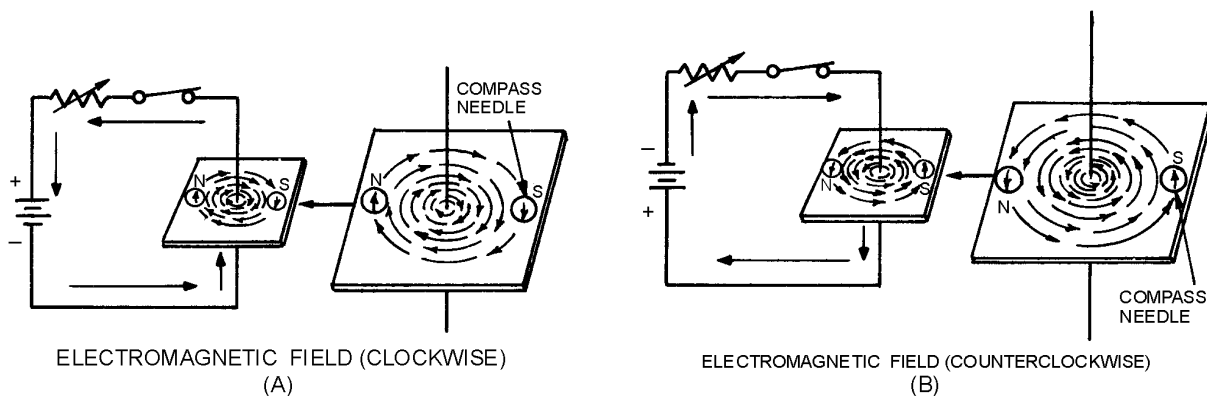

Figure 1-2.—Magnetic field around a current-carrying conductor.
If a compass is placed in the vicinity of a current-carrying conductor, the compass needle will align itself at right angles to the conductor, thus indicating the presence of a magnetic force. You can demonstrate the presence of this force by using the arrangement illustrated in figure 1-2. In both (A) and (B) of the figure, current flows in a vertical conductor through a horizontal piece of cardboard. You can determine the direction of the magnetic force produced by the current by placing a compass at various points on the cardboard and noting the compass needle deflection. The direction of the magnetic force is assumed to be the direction in which the north pole of the compass points.
In figure 1-2 (A), the needle deflections show that a magnetic field exists in circular form around the conductor. When the current flows upward (see figure 1-2(A)), the direction of the field is clockwise, as viewed from the top. However, if you reverse the polarity of the battery so that the current flows downward (see figure 1-2(B)), the direction of the field is counterclockwise.
The relation between the direction of the magnetic lines of force around a conductor and the direction of electron current flow in the conductor may be determined by means of the **LEFT-HAND RULE FOR A CONDUCTOR**: if you grasp the conductor in your left hand with the thumb extended in the direction of the electron flow (current) (- to +), your fingers will point in the direction of the magnetic lines of force. Now apply this rule to figure 1-2. Note that your fingers point in the direction that the north pole of the compass points when it is placed in the magnetic field surrounding the wire.
Figure 1-2 shows that the direction of the magnetic field around a straight wire depends on the direction of current in that wire. Thus, a reversal of current in a wire causes a reversal in the direction of the magnetic field that is produced. It follows that a reversal of the current in a coil also causes a reversal of the two-pole magnetic field about the coil.